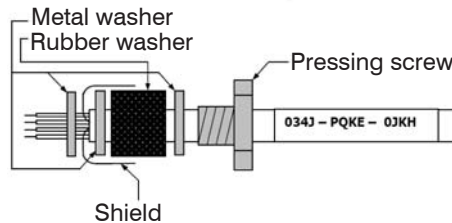

Fig. 33 Cable assembling
- Place the pressing screw, the rubber washer and the metal washers of the cable gland one after the other onto the prepared cable end, see Fig. 33.